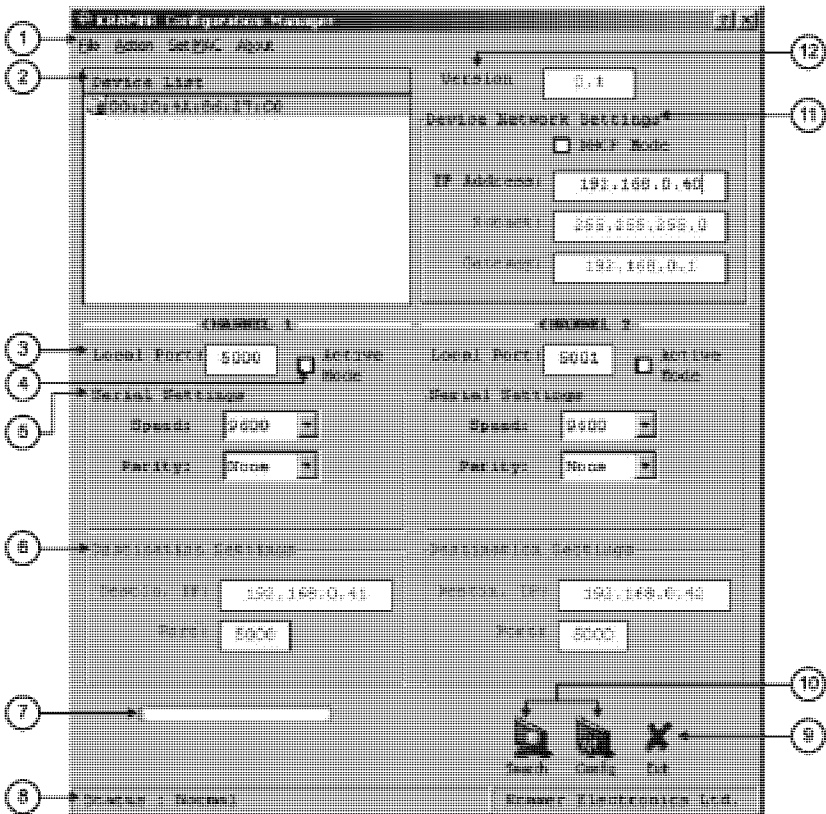

Figure 7: FC-10ETH Configuration Manager Window
3. Click the appropriate shortcut in the Start menu's Programs folder. The **FC-10ETH** Configuration Manager window (see Figure 7) opens.
Figure 7 and Table 5 define the FC-10ETH Configuration Manager window: